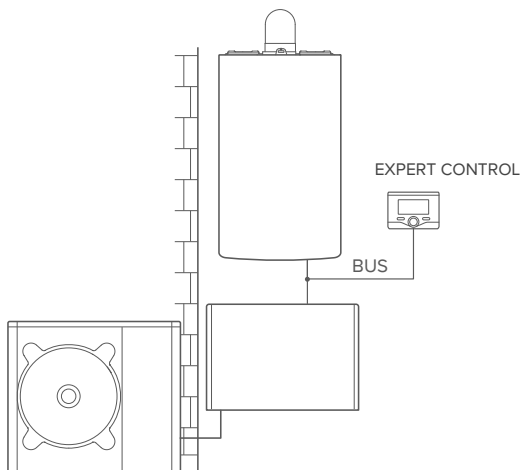

fig.7
Activation of RD and RC in a basic hybrid system (Fig. 7)
1. Stick the double-sided tape to the back of the support plate (Figure 7); remove the protective film and attach to the boiler;